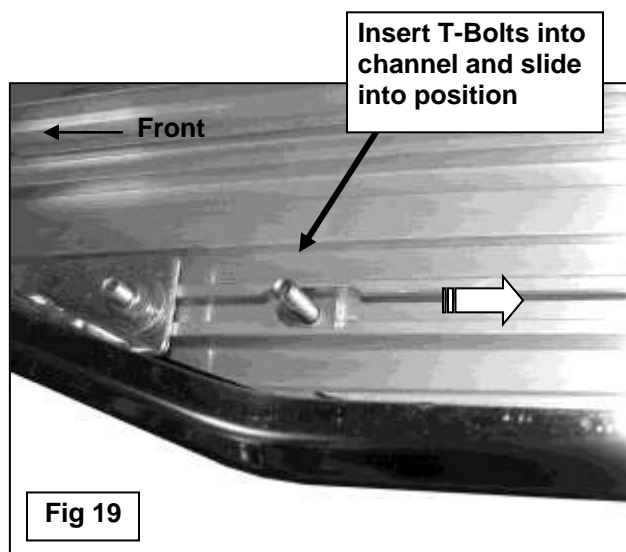

Fig 19
9. Carefully unwrap and select the driver side Running Board. Insert (3) 6mm T-Bolts into each slot in the end of the channels, (3 T-Bolts per channel), on the bottom of the Running Board, **(Fig. 19)**. Hold the Running Board up in approximate position and slide the T-Bolts down to line up with the (3) Mounting Brackets. Tilt the Board up at a slight angle and push back against the vehicle until the T-Bolts fit into the slots on the Brackets. Secure the Board to the Brackets with (6) 6mm Flat Washers, (6) 6mm Lock Washers and (6) 6mm Hex Nuts, **(Fig. 20)**. Do not tighten hardware at this time. **NOTE:** the Running Board is designed to fit close to the vehicle. It may be necessary to temporarily loosen the Bracket hardware and tilt the Brackets downward to insert the Running Board.